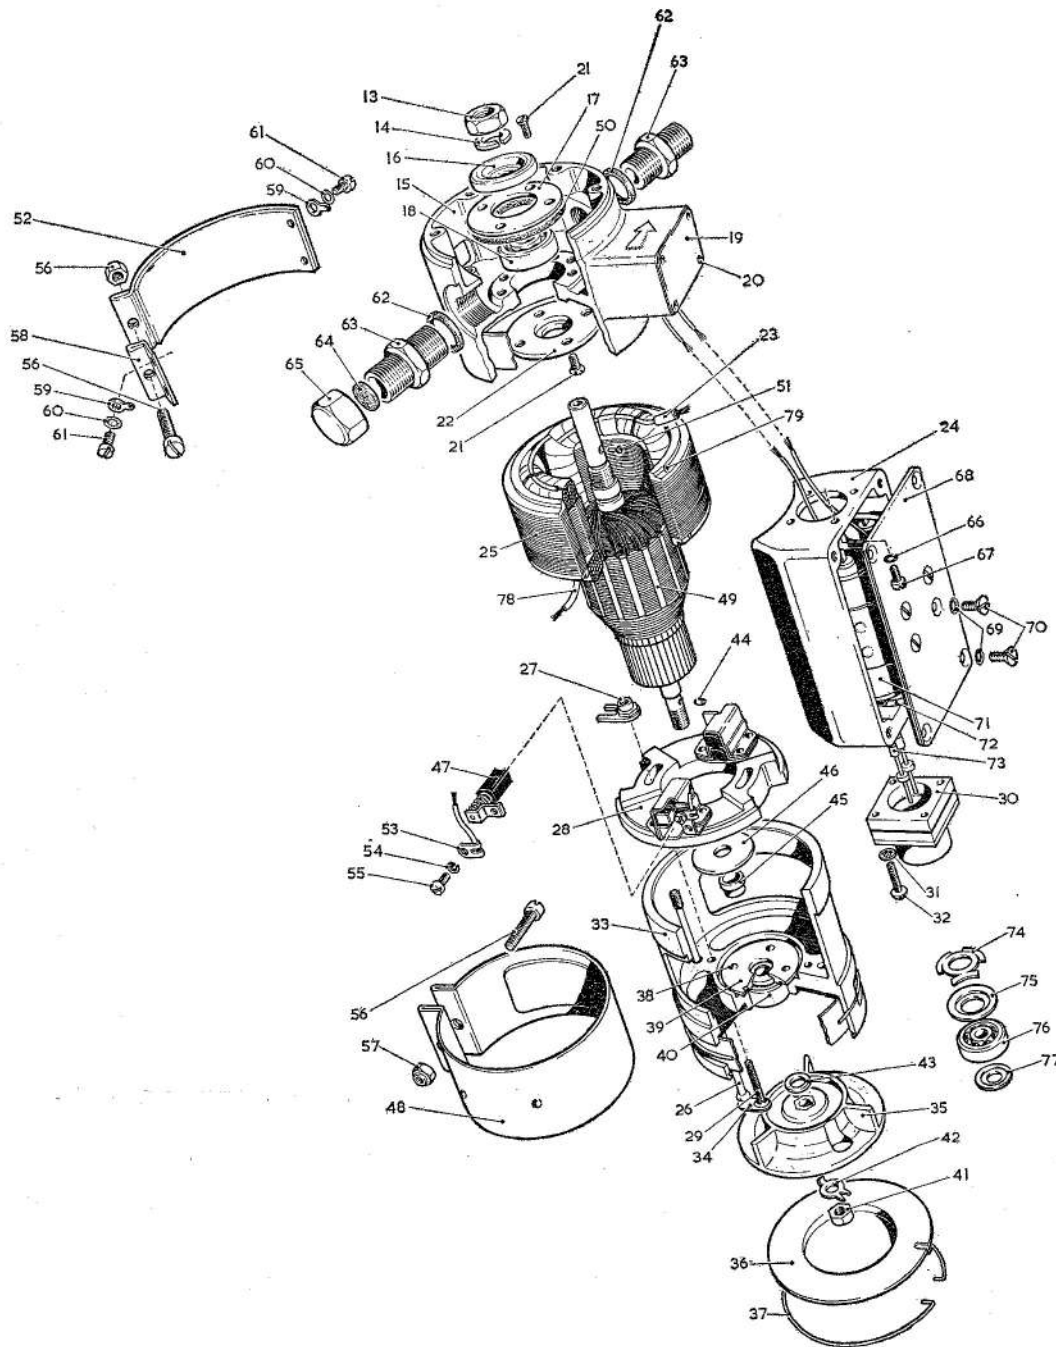

Fig. 3. Exploded view of motor unit components
Key to Fig. 3
5. (1) Remove the two screws (61, fig. 3), shakeproof washers (60) and the locking wire tag (59) from the large drive-end band (52). Remove the nut (57) and screw (56) to release the large drive-end band from the small drive end band (58).